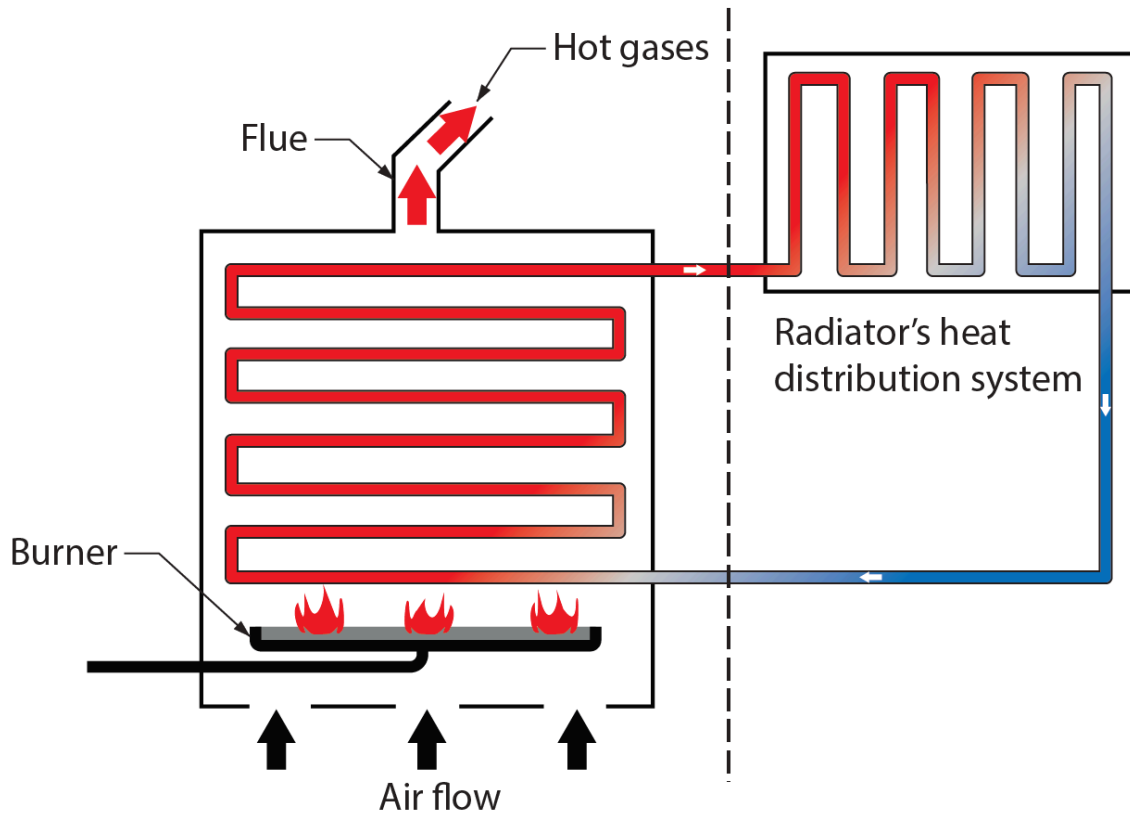

Figure 34 Air to water heat exchanger commonly found in a water tube boiler. (Skilled Trades BC, 2021) Used with permission.
- **Figure 34** Water-to-air heat exchanger is by Rod Lidstone and is used under a CC BY (<https://creativecommons.org/licenses/by/4.0/>) licence.